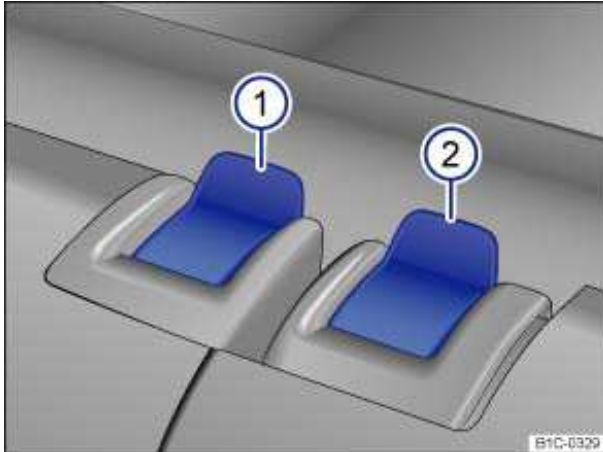

Fig. 76 Rear seat: release button right backrest 1, left backrest 2.
- Pull the release button ⇒ fig. 76 \(1\) or \(2\) forward while folding the rear backrest forward.